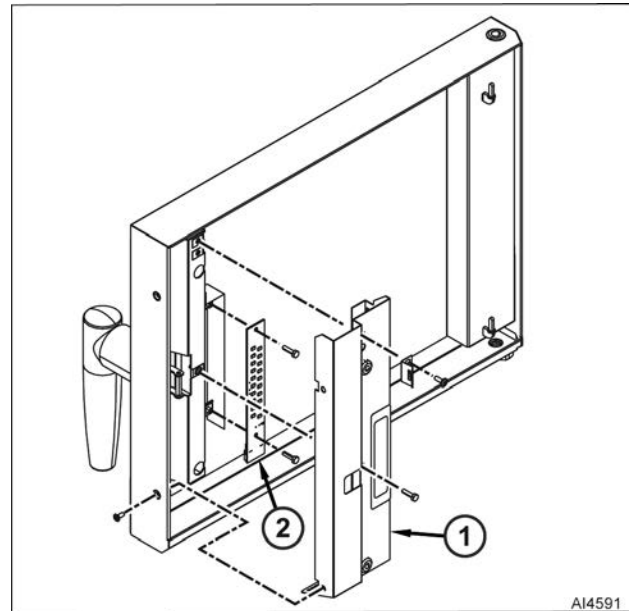

Fig. 41
3. Remove screws and inner panel (1, Fig. 41).
4. Remove screws and LED strip (2, Fig. 41) from door.